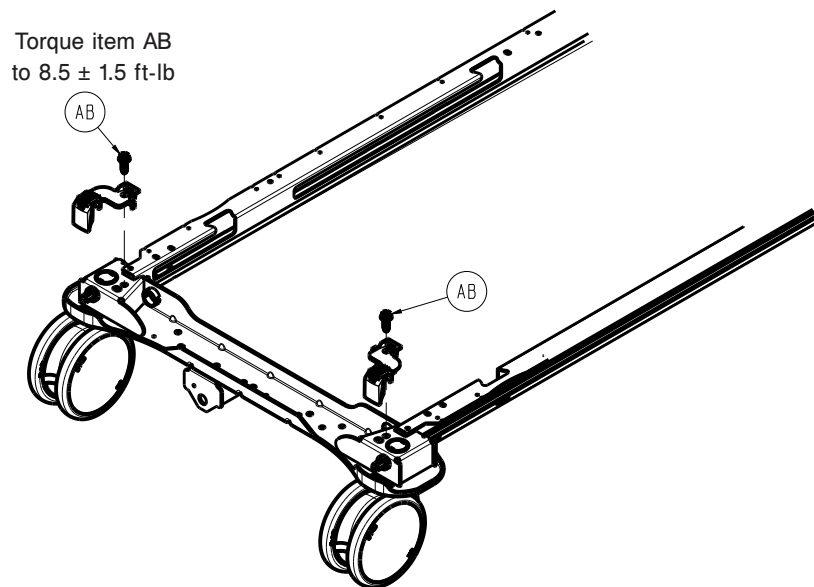

Figure 13 – Removing the caster
- Using a ratchet and 1/2" socket, remove the bolt (AB) and brake shaft retainer on the side of the caster (which must be replaced) on the head end and foot end of the brake shaft (above the caster) (Figure 13).
7. Using a ratchet and 1/2" socket, remove the bolt (AB) and brake shaft retainer on the side of the caster on the head end and foot end of the brake shaft (above the caster) (Figure 13).